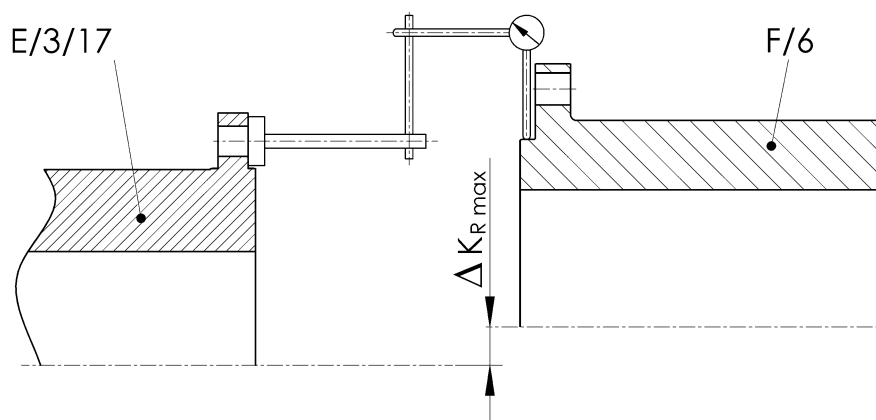

Fig. 5-2 Radial misalignment
- Measure the radial misalignment with a dial gauge (see Fig. 5-2).